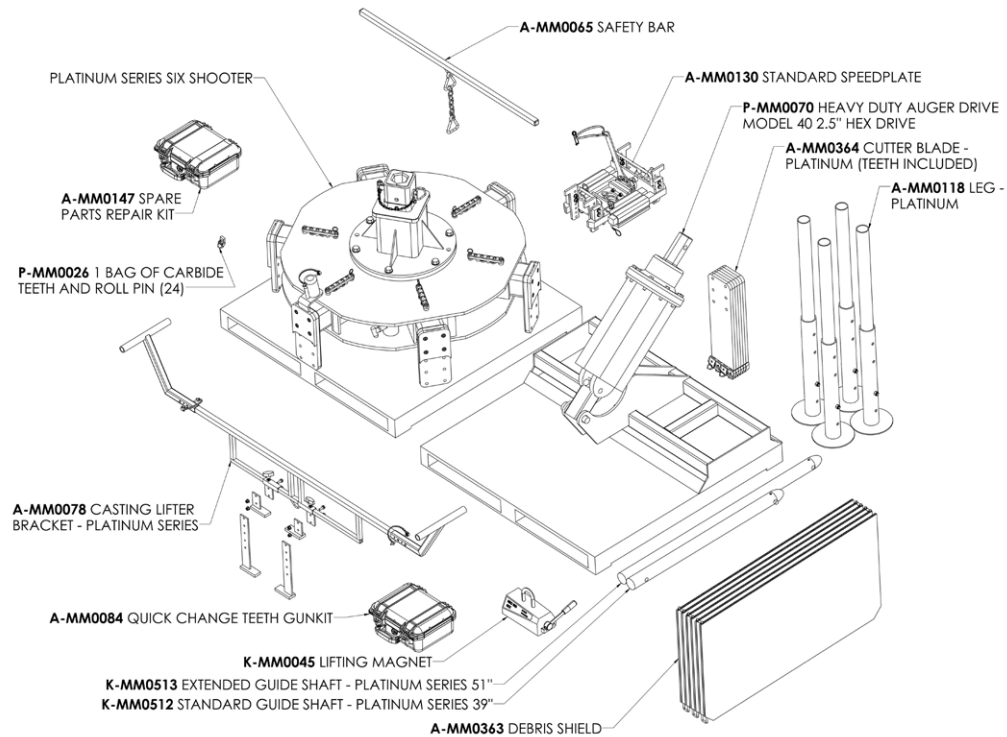

Figure 5. Package Contents
1. Remove the items from the top of the shipping container. See Figure 5. Pull the hitch pin out of the Easy Drive Top on the Six Shooter and insert the lifting strap into the hole in the top of the Drive Unit. Reinsert the hitch pin through the strap.